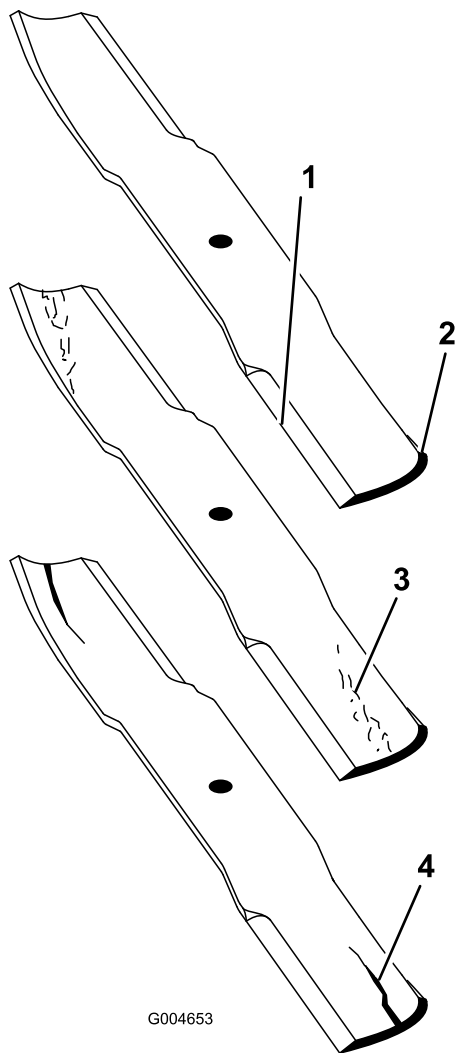

Figure 21
3. Inspect the cutting edges (Figure 21). If the edges are not sharp or have nicks, remove and sharpen the blades. Refer to Sharpening the Blades (Sharpening the Blades \(page 19\)).
4. Inspect the blades, especially the sail area (Figure 21). If you notice any damage, wear, or a slot forming in this area (Figure 21), immediately install a new blade.